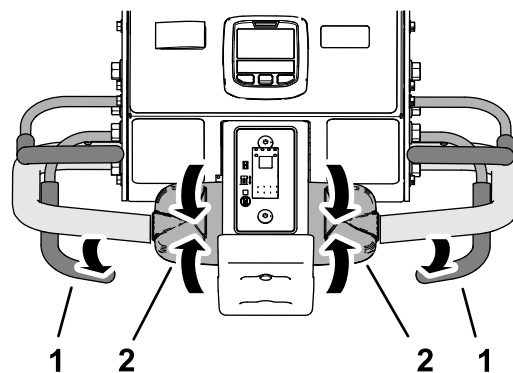

Figure 96
1. If you lowered the coring head, release the aerate bail (Figure 96).